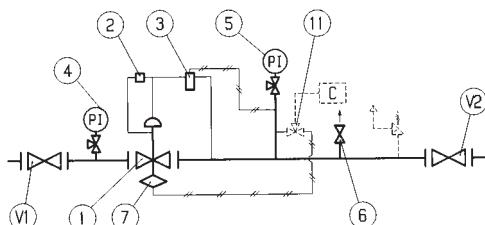

Fig. 22
5.4 MESSA IN SERVIZIO REGOLATORE APERFLUX 851 CON VALVOLA DI BLOCCO SB/82 INCORPORATA (FIG.22)
5.4 COMMISSIONING THE REGULATOR APERFLUX 851 WITH INCORPORATED SB/82 SLAM-SHUT (FIG. 22)
5.4 INBETRIEB. DES REGLERS APERFLUX 851 MIT SICHERHEITSABSPERR-INTEGR.SPERR-VENTIL SB/82 (FIG. 22)
5.4 MISE EN SERVICE DU DÉTENDEUR APERFLUX 851 AVEC VANNE DE SÉCURITÉ SB/82 INCORPORÉE (FIG. 22)
5.4 PUESTA EN SERVICIO DEL REGULADOR APERFLUX 851 CON VÁLVULA DE BLOQUEO SB/82 INCORPORADA (FIG. 22)
5.4 ACTIVAÇÃO COM REGULADOR APERFLUX 851 E VÁLVULA SEGURANÇA INCORPORADA SB/82 (FIG. 22)